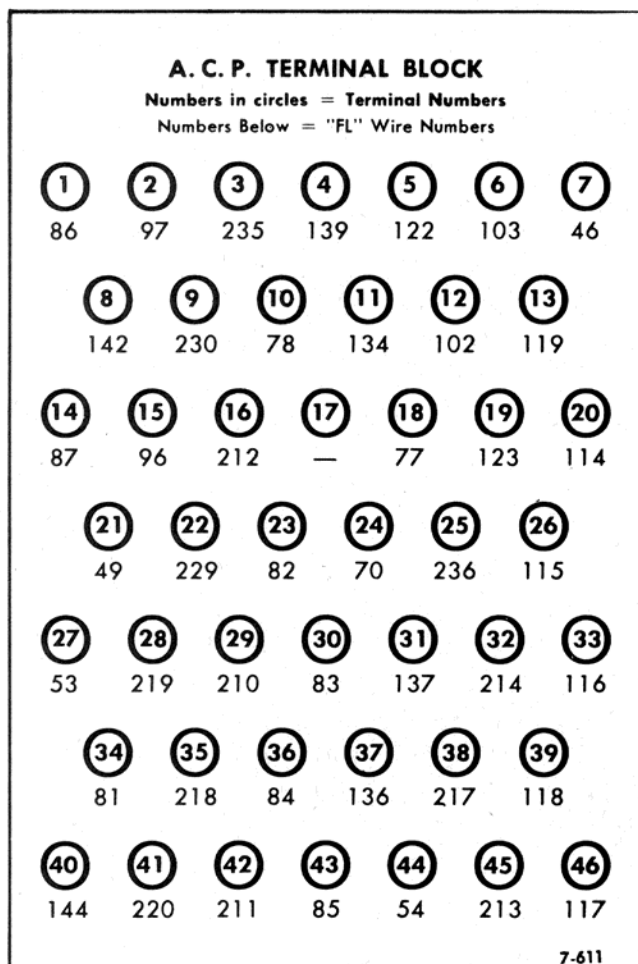

Figure 267—Diagram of Wire Connections at ACP Terminal Block
3. **INSTALLATION.**—Place the rubber grommet in the large hole in the back of the case. Thread the cable through the hole and fasten the case in place. Connect the cable of the ACP, using figure 267 as a guide. Bend the cable upward at the point where it comes through the back of the case so it will form a smooth loop at the back of the case when the autopilot control panel is installed. Place the autopilot control panel in the case and fasten it in place with the bayonet fasteners.